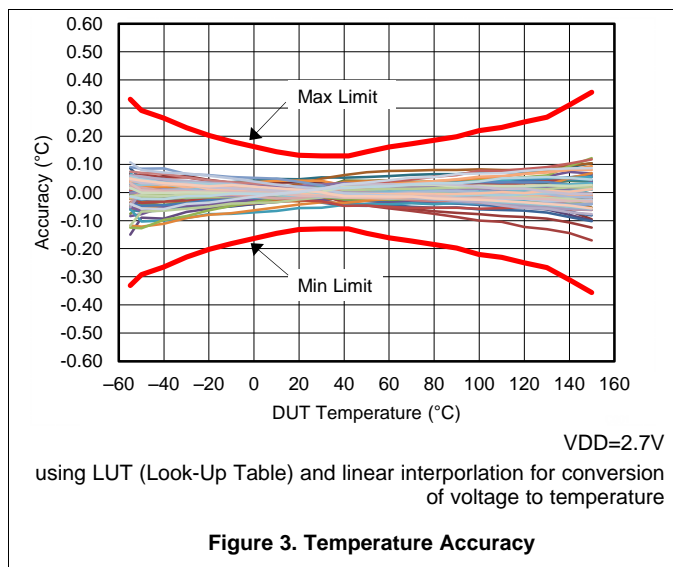

Figure 3. Temperature Accuracy
- The accuracy temperature coefficient specification is given to indicate part to part performance and does not correlate to the limits given in the curve Figure 3.
Over a narrow 10°C temperature range a linear equation will yield very accurate results. It is actually recommended that over a 10°C temperature range linear interpolation be used to calculate the temperature the device is sensing. When this method is used the accuracy minimum and maximum specifications would meet the values given in Figure 3.